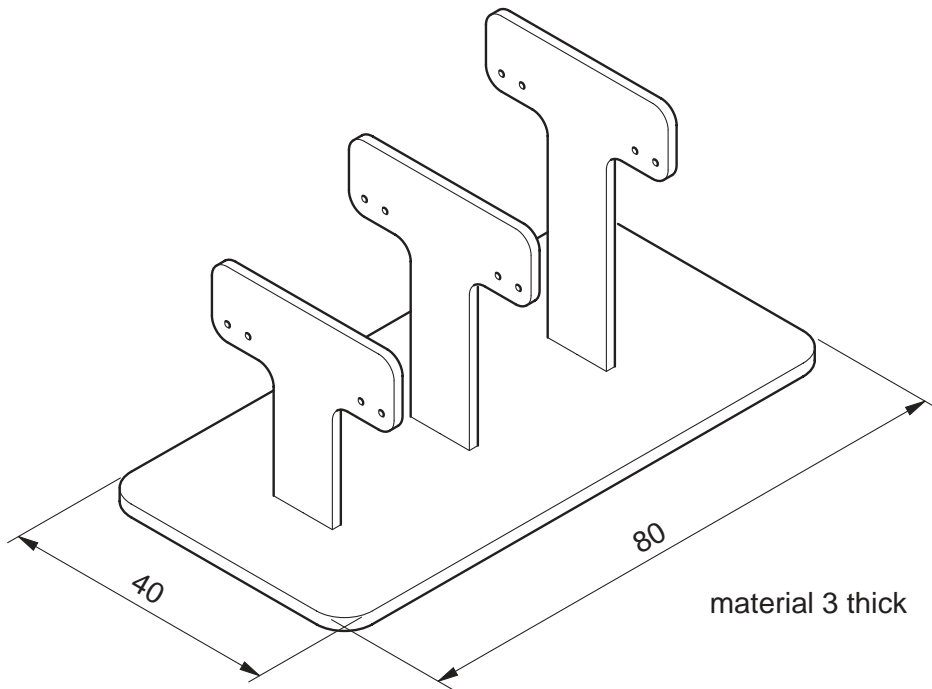

Fig. 1
- 1 Fig. 1 shows the design of a holder used to display ear rings.